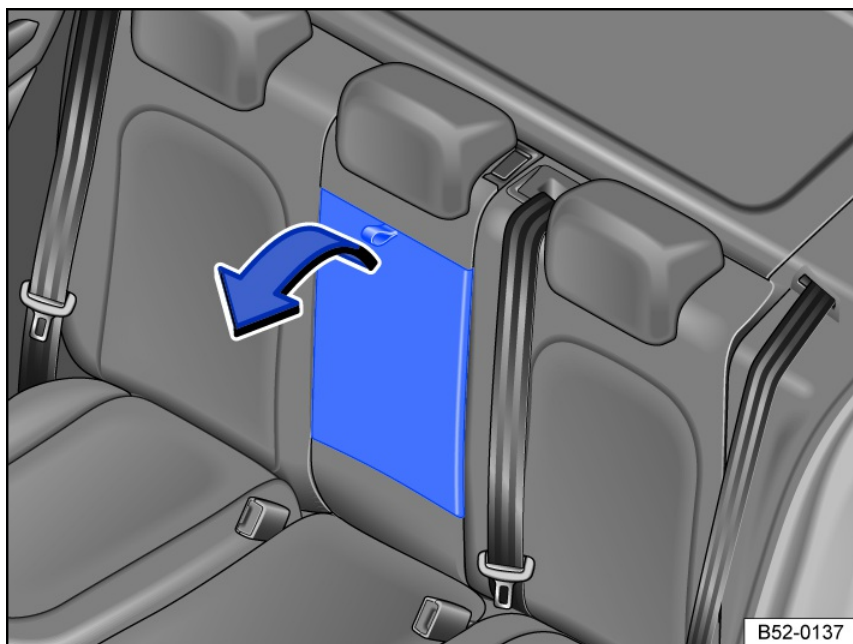

Fig. 89 Rear center armrest
- To *fold out*: pull the loop in the direction of the arrow fig. 89.
- To *fold back*: fold the center armrest upward in the opposite direction of the arrow fig. 89 and press it all the way toward the seat backrest.